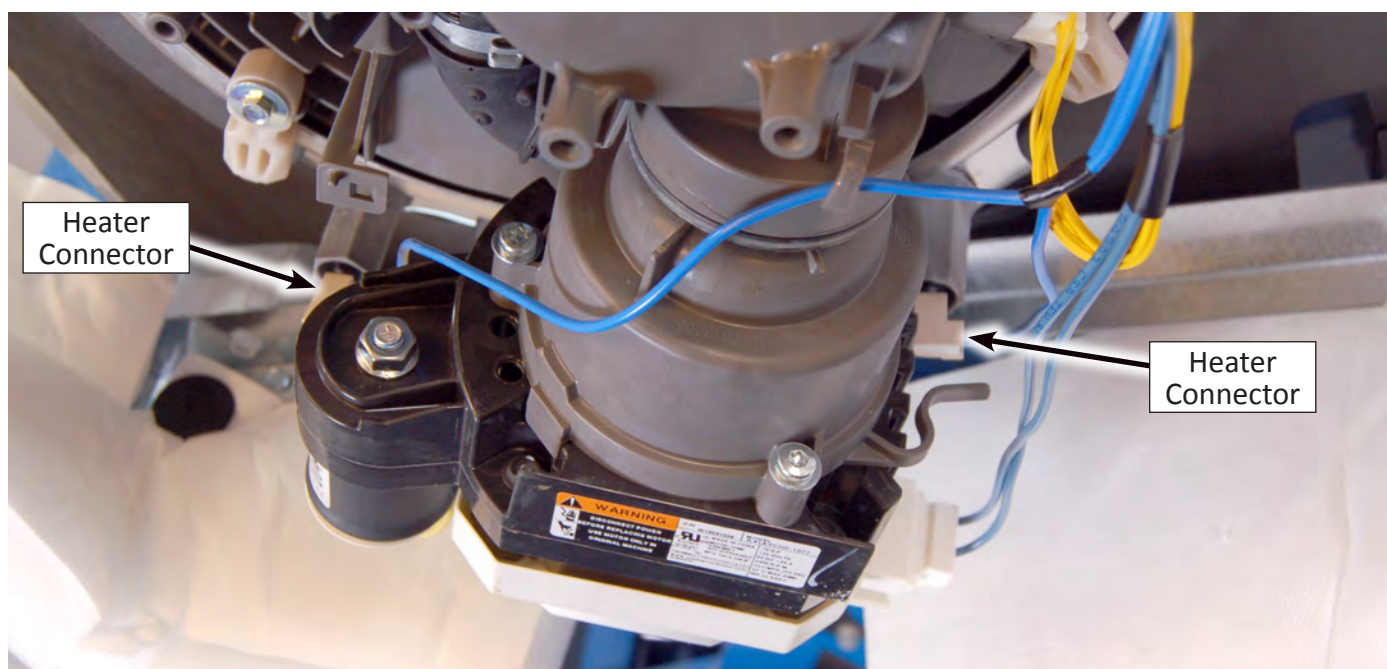

Figure 1
2. Disconnect wires from both heater terminals (see Figure 1).